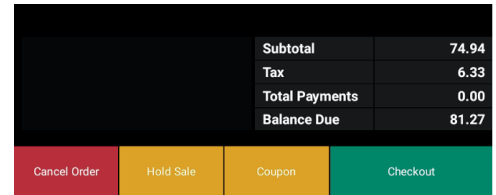

Figure 59
1. Select CHECKOUT (Figure 59).